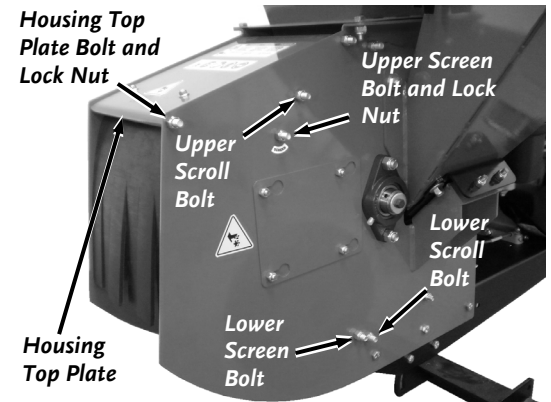

Figure 41
2. Remove the Bolt and Lock Nut securing the Housing Top Plate using two 9/16" Wrenches (**Figure 41**).
21. Reposition the Housing Top Plate and secure with the Housing Top Plate Bolt and Lock Nut (**Figure 41**).